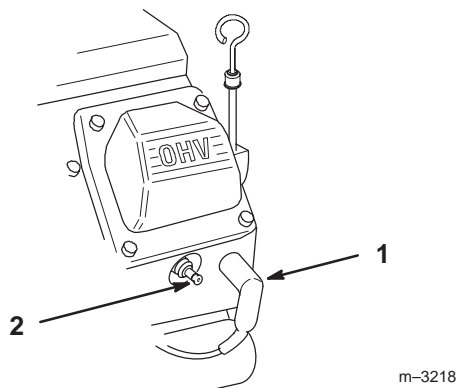

Figure 39
2. Pull the wire(s) off the spark plug(s) (Fig. 39). Now clean around the spark plug(s) to prevent dirt from falling into the engine and potentially causing damage.
3. Push the wire(s) onto the spark plug(s) (Fig. 39).